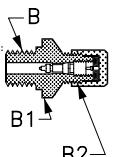
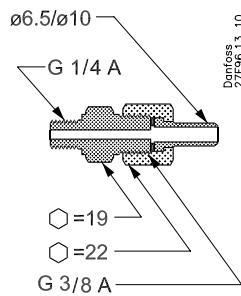
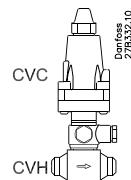

Fig. 2
Fig. 3
Fig. 4. CVC - CHV
Banjofittingen er forsynet med to ens tilslutnings-huller. I det ene hul monteres signalledningen ved hjælp af tilslutningen fig. 3. Signalledningen fra CVC skal tilsluttes der hvor trykket ønskes reguleret, f.eks. umiddelbart før kompressoren, hvis der ønskes en startregulatorfunktion.
I det andet hul på banjofittingen er det muligt at tilslutte et manometer, der kan anvendes ved indstillingen af CVC. Manometret mäter trykket P_s i signalledningen. I stedet for blændpropren (44) skal der så iskrues en manometertilslutning, fig. 2 eller 3; se »Tilbehør«.
CVC kan desuden monteres i ventilhuset CVH og anvendes som separat pilotventil eller selvstændig ventil; se fig. 4.
For fluorerede kølemedler: selvlukkende ventil med flaretstilslutning (fig. 2) bestillingsnr. 027B2041; For ammoniak: Ø6.5 /Ø10 mm svejsestud (fig. 3) bestillingsnr. 027B2035.
The banjo fitting has two identical connection holes. In the one hole the signal line is fitted with the connection shown in fig. 3. The signal line from the CVC must be connected at the point where the pressure is to be regulated, e.g. immediately in front of the compressor if crankcase pressure regulator function is required. It must not be possible to block the signal line. In the other hole in the banjo fitting a manometer can be fitted for use when setting CVC. The manometer measures the pressure p_s in the signal line. Instead of blanking plug (44) a manometer connection, fig. 2 or 3, must be screwed in, see „Accessories“. If only one of the two connection holes in the banjo fitting is used the other must be blanked off with blanking plug (44). CVC can also be fitted in valve body CVH and be as a separate pilot valve or independent valve, see fig. 4. If CVC-CVH is used as a separate pilot valve the unit must be fitted in the pilot line with flow towards the main valve.